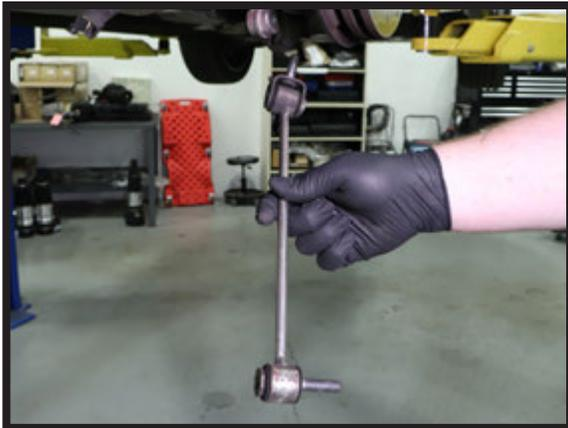

FIGURE 31
7. INSTALL SWAY BAR LINKAGE. (FIGURES 31, 32, 33)